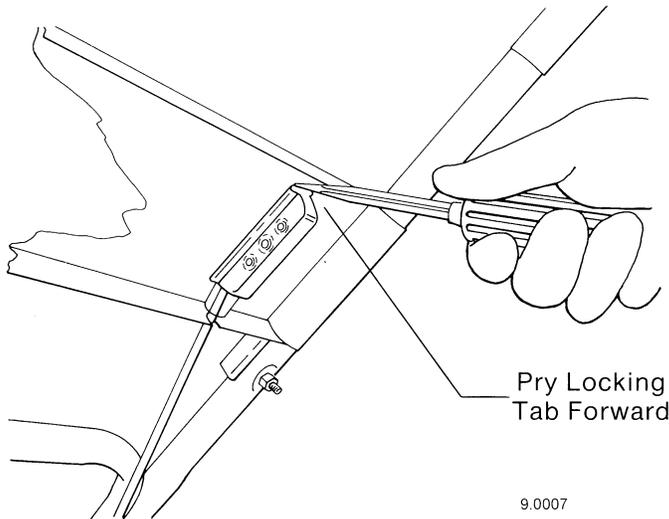

FIG. 13
- a. Pry off cable clip on lower handle , to release throttle cable. Then with a screwdriver pry locking tabs forward on throttle control. The throttle control can then be pushed thru the mounting hole on handle panel (See Fig. 13). Remove old throttle control assembly.